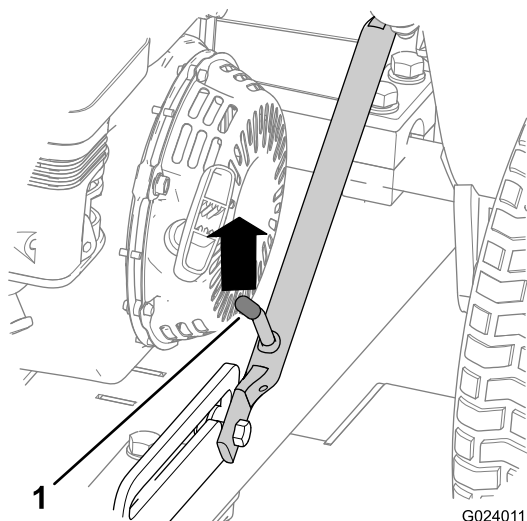
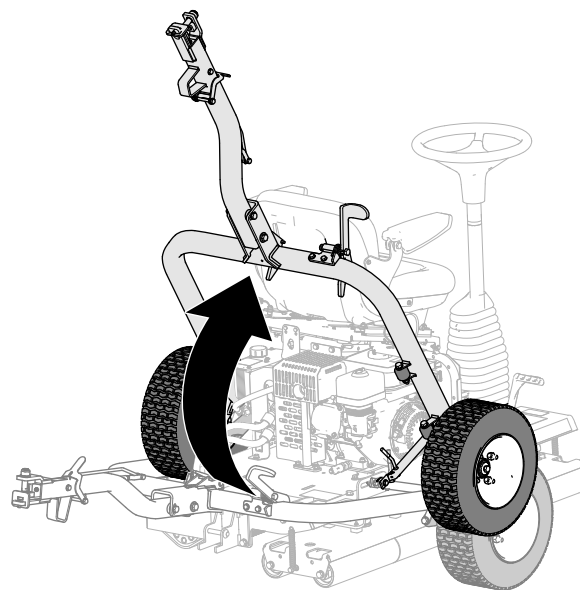

Figure 17
Figure 22
1. Push up on the hitch assembly until the latch lever is unlocked from the slide detent (Figure 17).
5. Raise the hitch (Figure 22) until the latch lever locks in the slide detent (Figure 17).